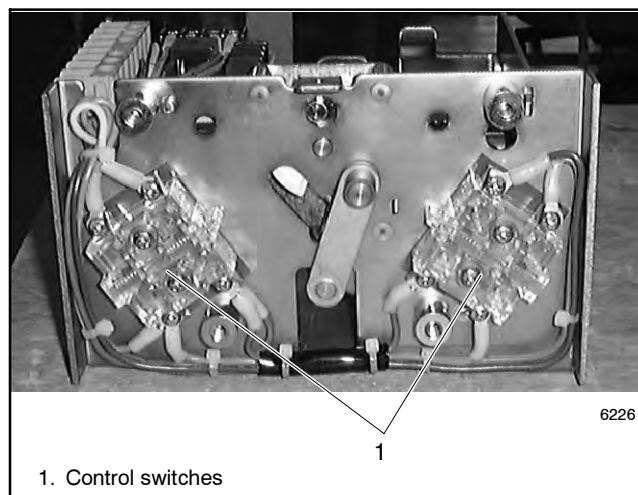

Figure 7-13 Control Switches
3. Note the connections (for reconnection later) and disconnect the control switch leads at eight locations. See Figure 7-13.